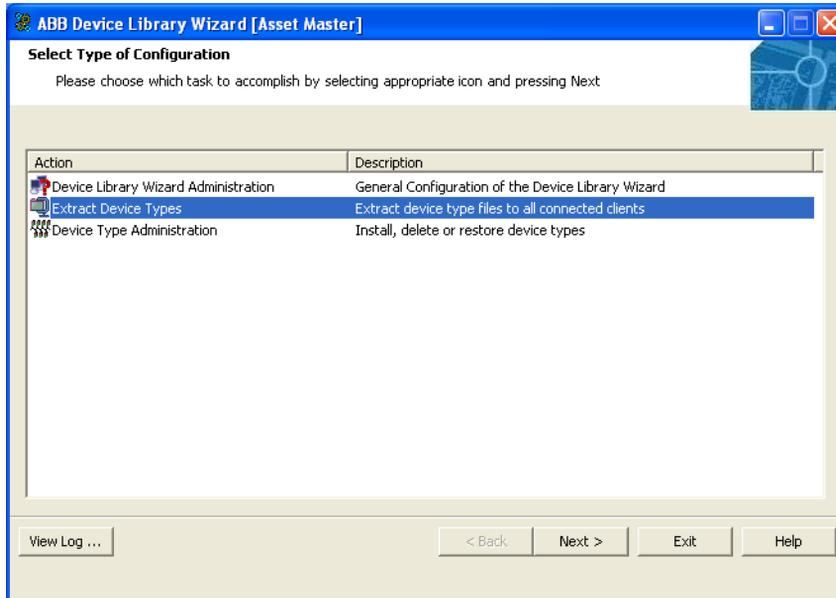

Figure 97. Select Configuration Type
3. A screen similar to the one shown in Figure 97 is displayed.